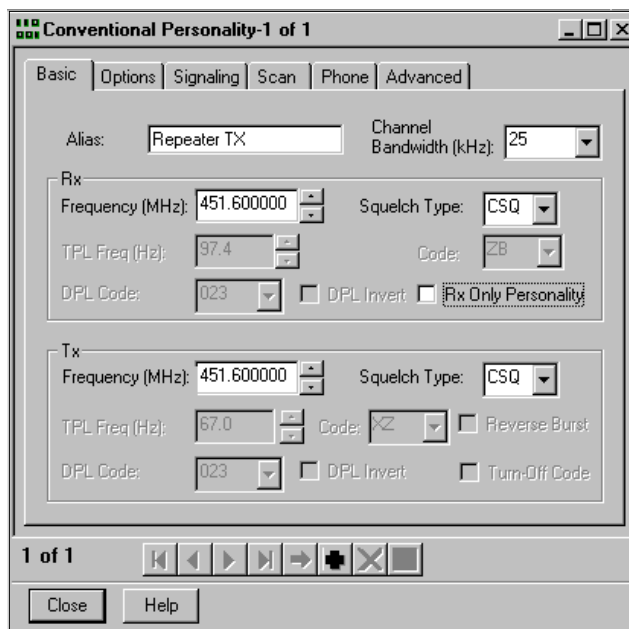

Figure 9-6. Conventional Personality, Basic, Transmit Radio
- Select the "Squelch Type:" as "CSQ". Your screen should appear similar to Figure 9-6.